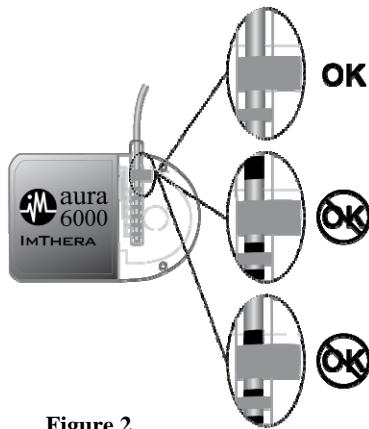

Figure 2
For high impedance: i) ensure that the IPG is in the IPG pocket or otherwise making tissue contact; ii) ensure that the lead is properly inserted into the IPG (see Figure 2); iii) confirm that there is no visible blood or tissue on the lead terminal bands; iv) confirm that there is no air gap/bubble between the electrode contact and nerve by flushing the incision with saline.
6. Holding the lead 5 mm from its proximal end, insert the lead into the IPG header. Continue to insert in 5mm increments until the lead is fully seated. You will feel the lead bottom out in the header and see that the proximal end of the most distal band on the lead is within the setscrew block (Figure 2).